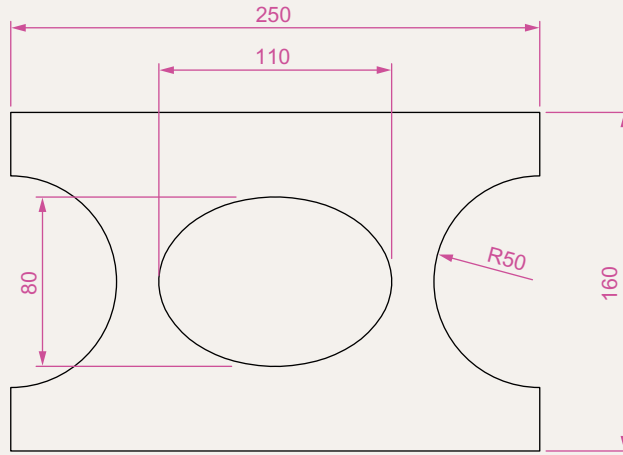

Fig. 12.50 Exercise 7
7. Working to the dimensions given in Fig. 12.50 construct an extrusion of the plate to a height of 5 units.